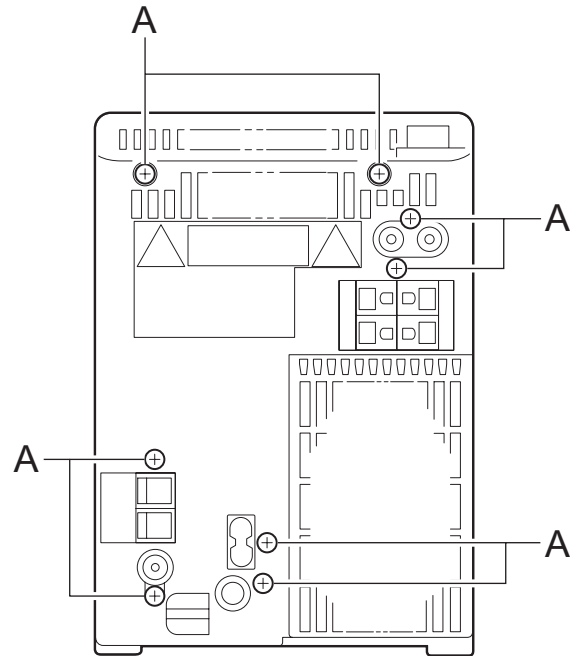

Fig.1
2.1.1 Removing the rear panel (See Fig.1,2)
(See Fig.1~3)